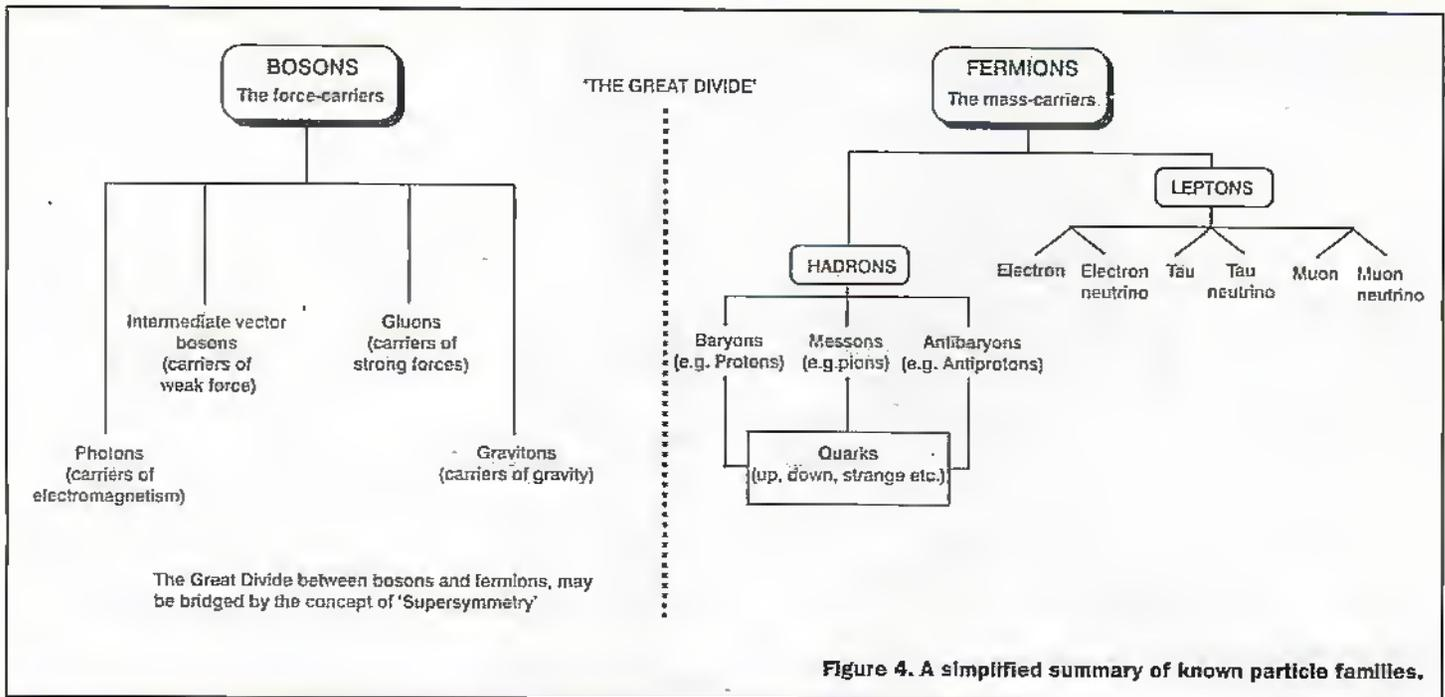

Figure 4. A simplified summary of known particle families.
**Figure 4.** With the lenticular approach used on the Heinrich-Hertz-Institut, each eye sees just half the screen. The bandwidth is reduced compared to the moving slit approach but at the cost of reduced horizontal resolution.
Thus by the mid 1980's all of the particles had been discovered that were required to build all of the matter in the Universe. In terms of leptons - three types of neutrinos, the electron, muon and taon and with association with six types of quarks. Further determination of, for example, core structure of quarks remains to be verified by experimentation from higher energy accelerators such as the LHC at CERN. A simplified summary of particle families is shown in Figure 4. A summary of the known forces are summarised in table 1 and table 2 summarises information on the main set of known particles.